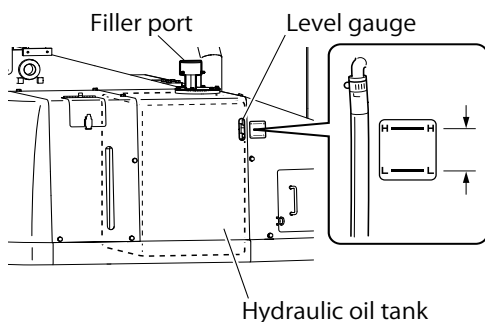

Fig. 7-2
- Daily checks from the oil level gauge (Fig. 7-2) can confirm the change of the hydraulic oil level that might show the hydraulic system problems.